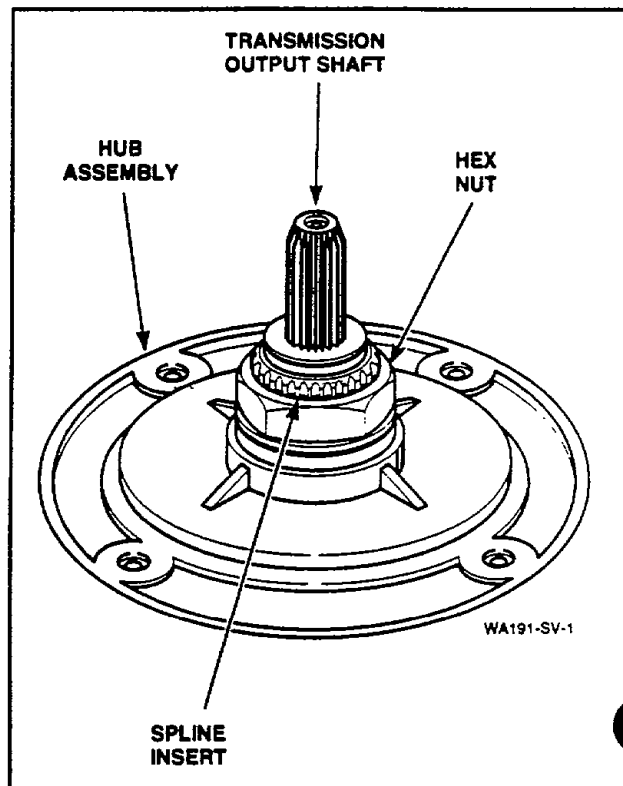

Figure 51
j. Remove large hex nut using a No. 237P4 Hex Wrench, *Figure 51*.
k. Remove spline insert from transmission tube, *Figure 51*.